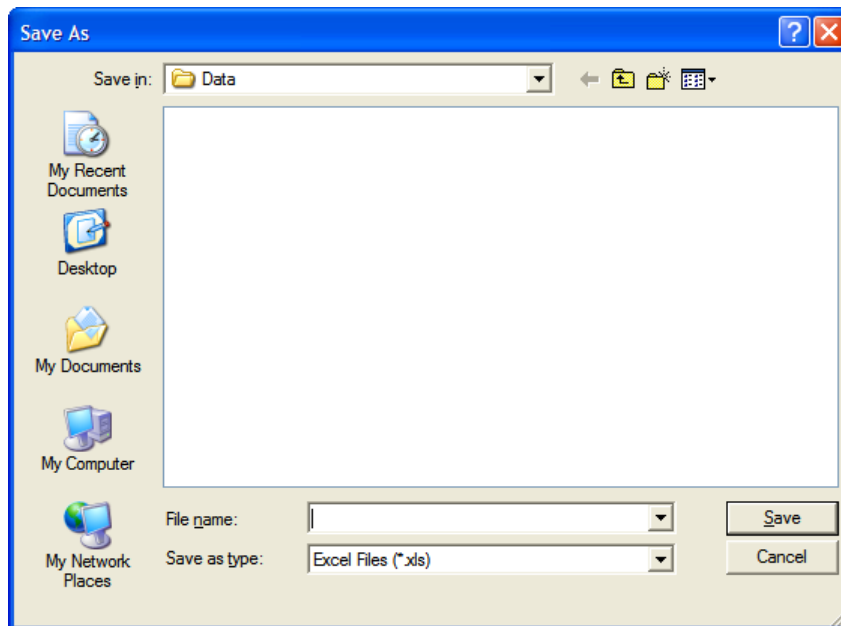

Figure 9-37 Selecting Excel File
5. Click the **Export Selection** button to export the highlighted selection to an Excel file. You will be asked if you want to add to the previously exported data. If this selection is from the same summary that was previously exported, answer Yes, and the data will be added. Answering No will create a new Excel file. In either case, select the Excel file as in Figure 9-37 Selecting Excel File.